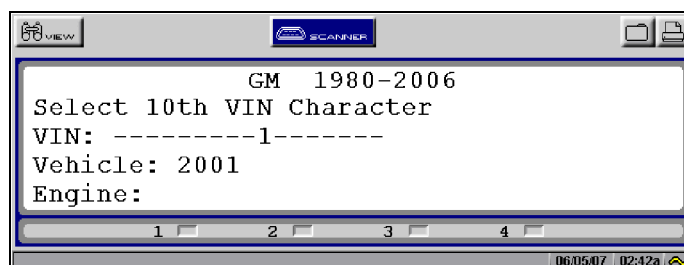

Figure 5-4 Sample Vehicle ID screen
1. Once the database loads, the first vehicle identification (ID) screen displays (Figure 5-4).